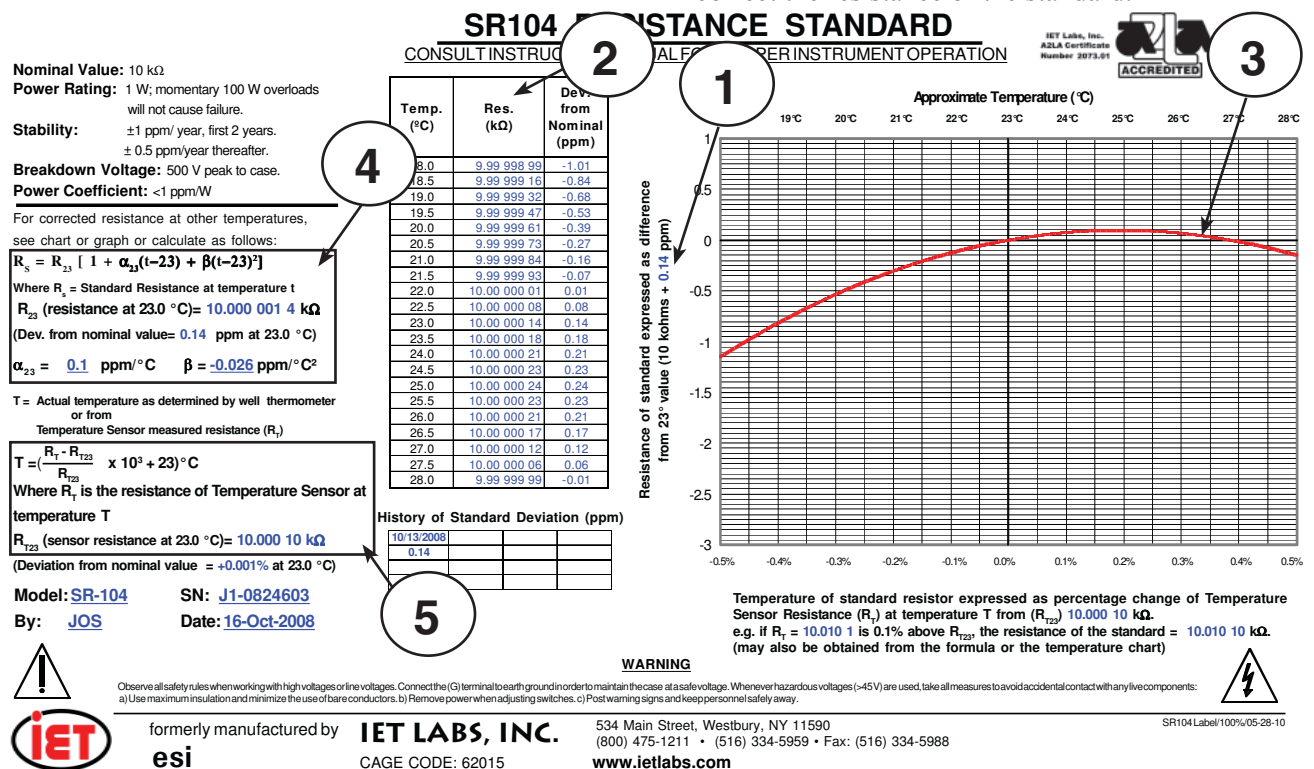

Figure 3-1: Sample temperature correction chart
The temperature correction chart (in the lid of the unit) can be used to correct the resistance of the Transportable Standard Resistor for temperature effects. Figure 3-1 is a sample of the calibration data and correction chart attached to the unit.
The precise 23°C value of the standard is given in location (1). In the example shown in Figure 3-1, the standard resistance is:
**Note:** In the following discussion and in Figure 3-1,
Using all three methods in the sample shown in Figure 3-1, a temperature t of 22°C would produce the result of: